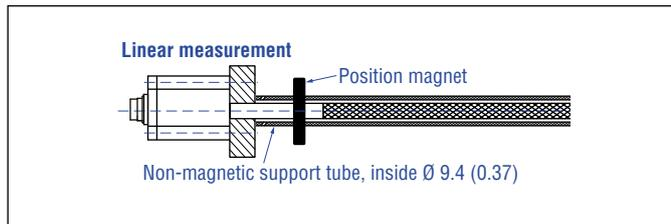

Fig. 30: Sensor with support tube
1. Always insert the flexible sensor rod in a support tube (e.g. sensor rod HD/HL/HP or HFP profile). The support tube has to be made of non-magnetic material and has to have an inside diameter of minimum 9.4 mm (0.37 in.) (Fig. 30). The support tube can be straight or bent.